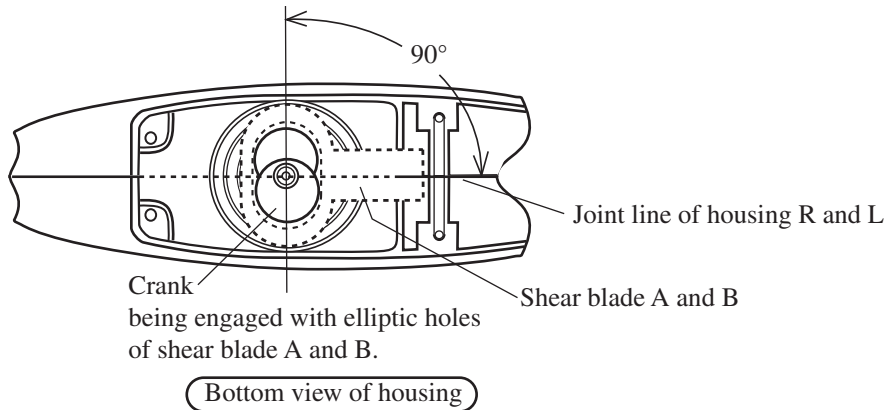

Fig. 5
- ③ Turn crank until its position comes to right angle against the joint line of housing R and L, as illustrated in Fig.5. Otherwise the crank can not engage with the elliptic holes of shear blade A and B.